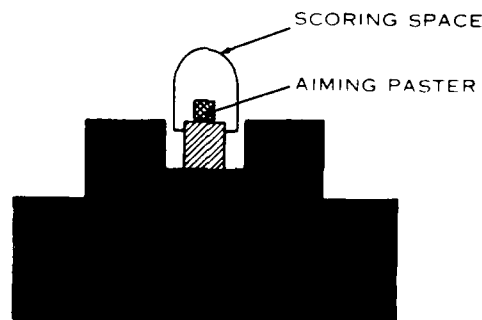

Figure 5-32.—Correct sight alignment and correct sight pictures.
**SIGHT PICTURE.**—With the sight properly aligned, obtain a 6-o'clock sight picture on the target (fig. 5-32). Always aim at the center base of the target for your initial burst of fire. When shooting at enemy personnel, aim at their beltlines.